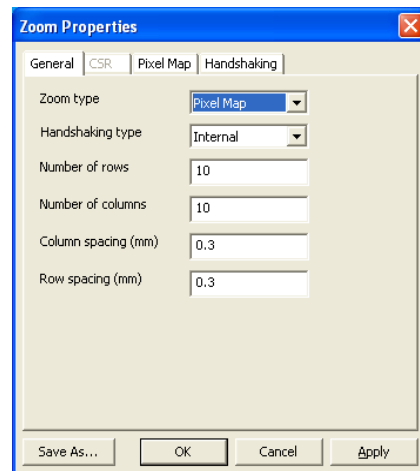

Figure 7.12.7 Pixel Map General Settings
1. Choose the zoom type in the **General** tab (see Figure 7.12.7):